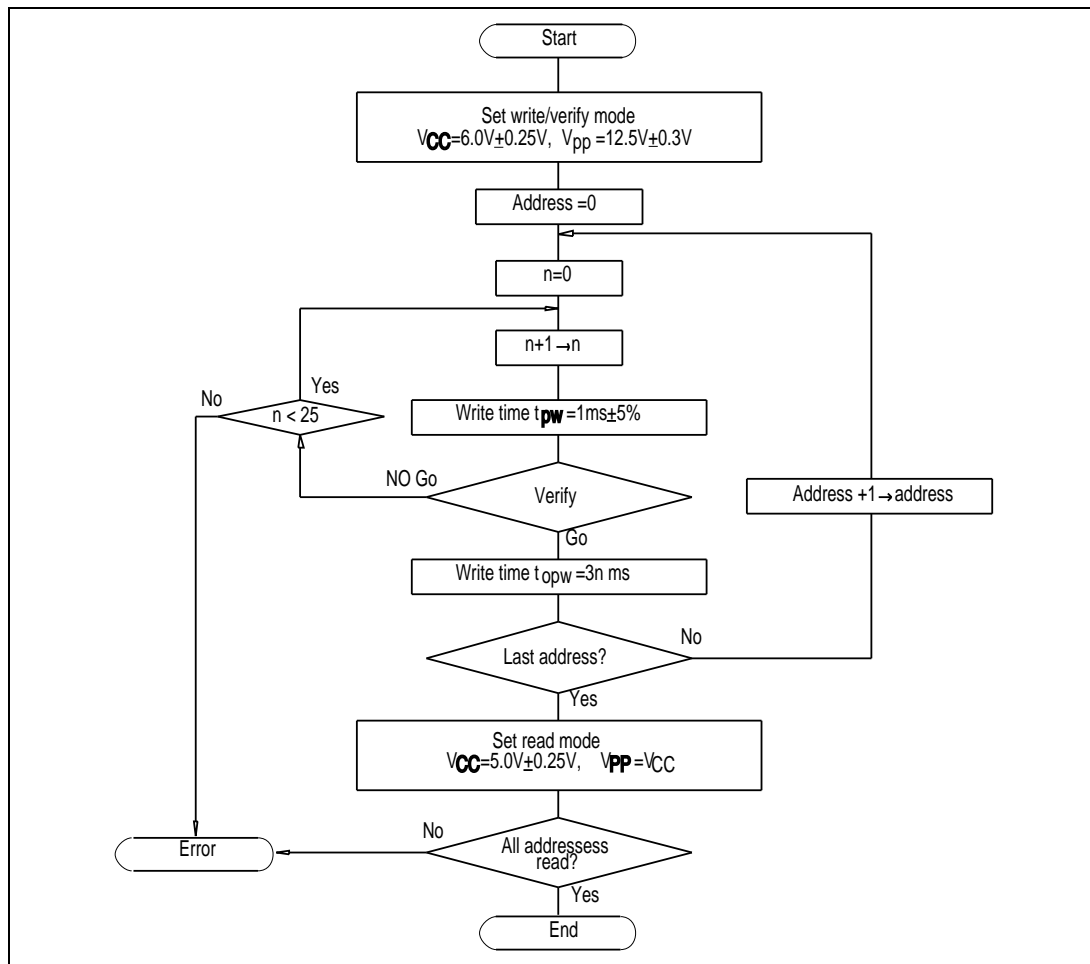
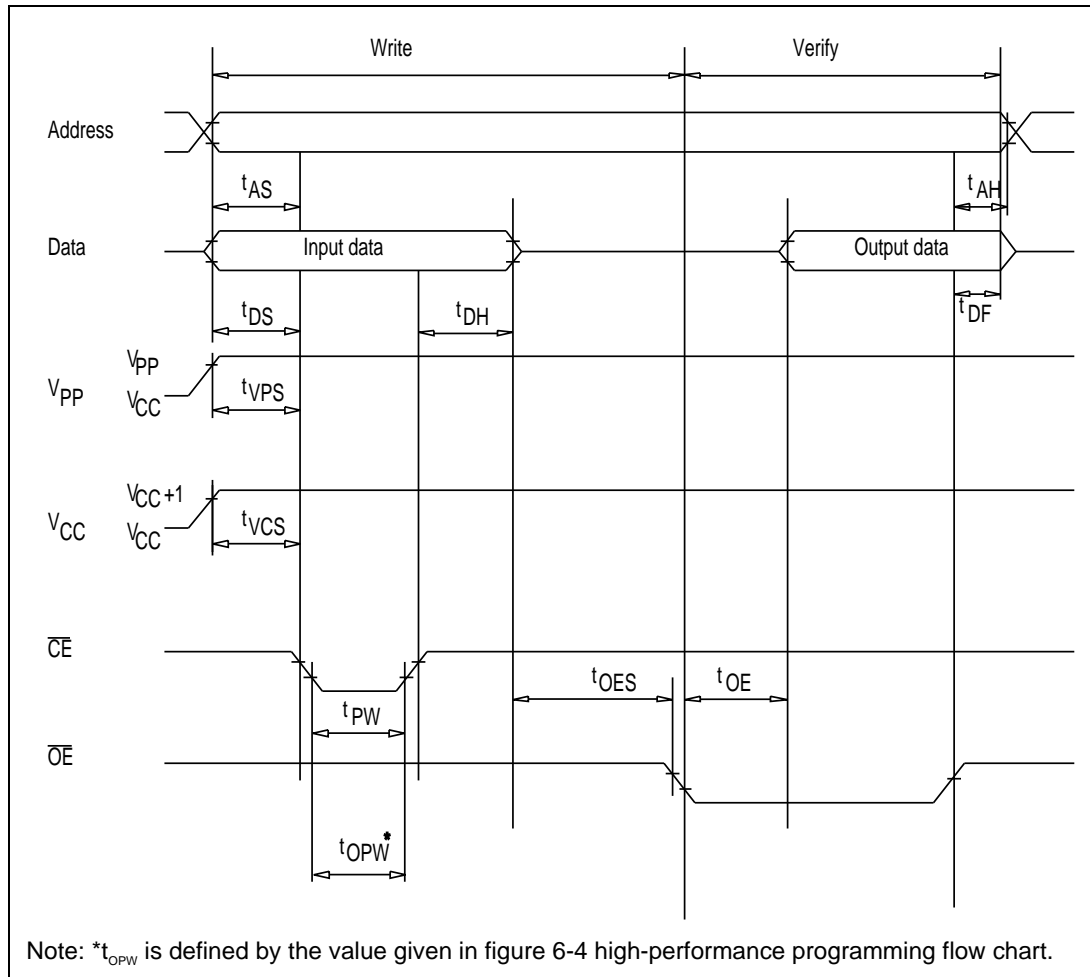

Figure 6-4 High-Performance Programming Flowchart
Figure 6-5 PROM Write/Verify Timing
The basic flow of this high-performance programming method is shown in figure 6-4. Table 6-4 and table 6-5 give the electrical characteristics in programming mode. Figure 6-5 shows a write/verify timing diagram.
3. t_{OPW} is defined by the value given in figure 6-4 high -performance programming flow chart.